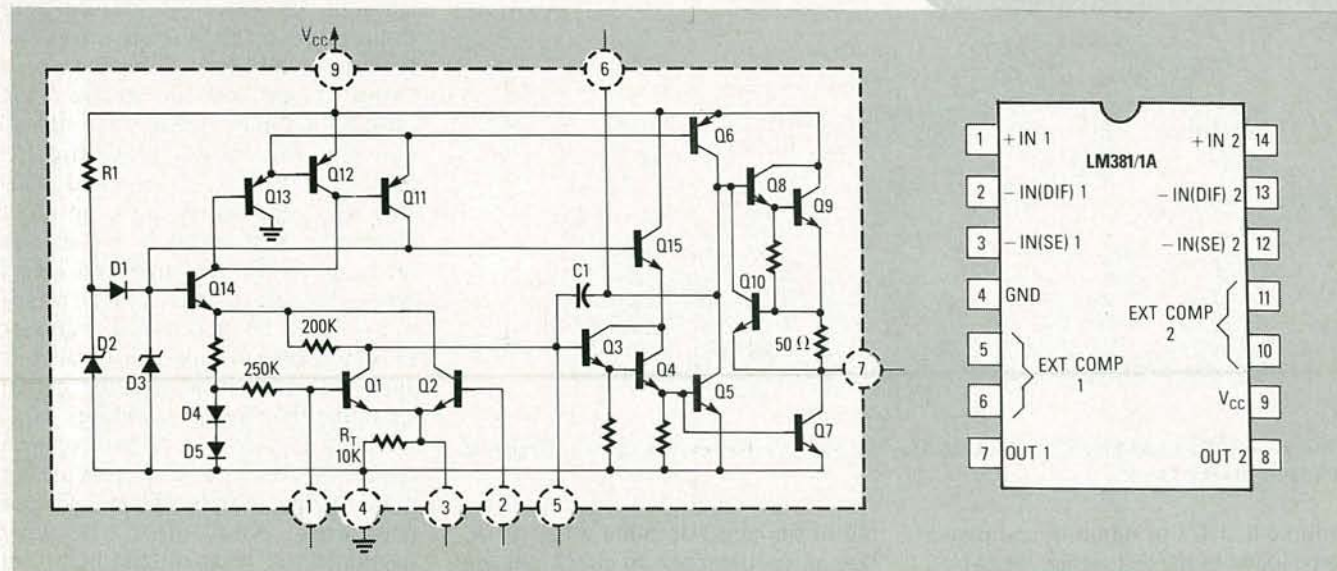

FIG. 2—THE LM381/1A DUAL LOW-NOISE PREAMP.
Two video heads are needed to "read" the information from a standard VHS videocassette (see Fig. 2). The two heads are mounted 180 degrees apart on a polished aluminum cylinder that spins counter-clockwise at 30 rpm. When one head completes a scan of the tape, the other head is ready to start its scan. In one scan, one video head generates a "field," a full top-to-bottom picture on the TV screen. The second video head also
FIG. 2—VHS BASIC MECHANISM. Two video heads are needed to generate the standard VHS format. The two heads are mounted 180 degrees apart on a polished aluminum cylinder that spins counter-clockwise at 30 rpm.
- The LM381 and LM381A, shown in Fig. 2, allow external noise figure optimization and compensation (nar-
LM381/1A shown in Fig. 2. It has a first stage (Q1 and Q2), second stage (Q3-Q6), output stage (Q7-Q10), and bias network (Q11-Q15); Fig. 5 shows a simplified equivalent. The first stage is biased at 1.2 volts via R1, and can be operated either differentially or single-ended, although differential operation generates 41% more noise.